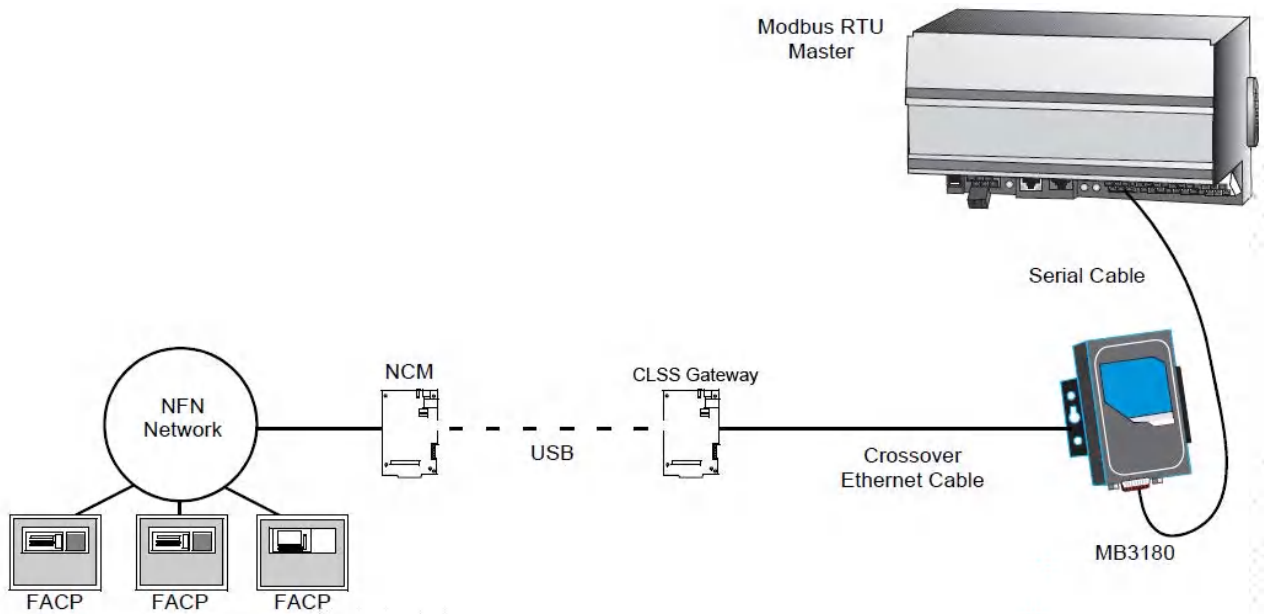

Figure 7.8: Connection Through Crossover Ethernet Cable
- Figures 7.8 and 7.9 show possible configurations for connecting the CGW-MB to the Moxa interface.